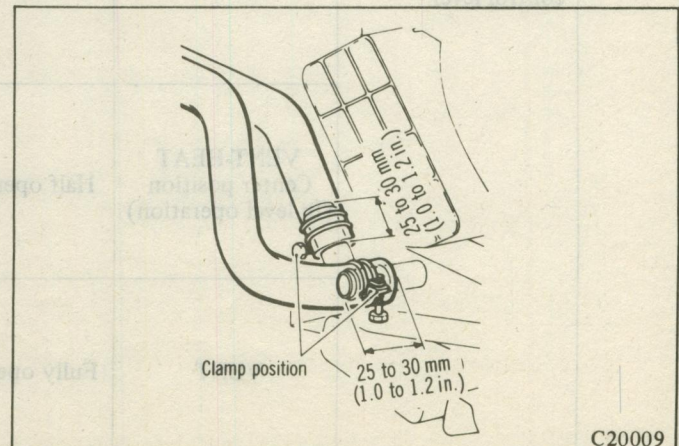

Fig. 5 Installing the Water Hose Clamp
(1) Insert the water hoses fully into the pipe and clamp it securely so that it will not leak. (Fig. 5)